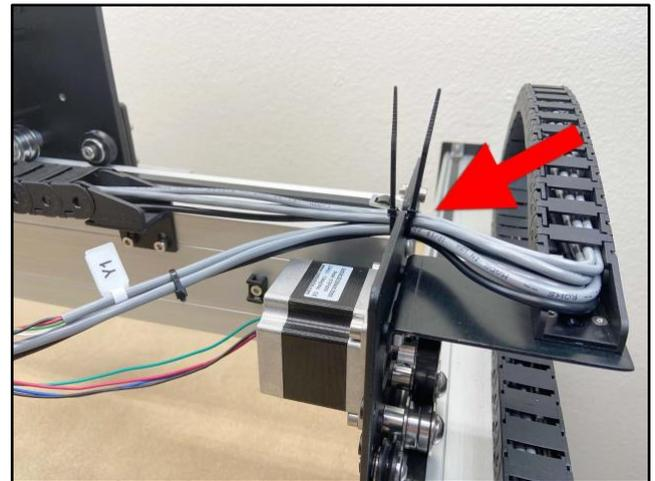
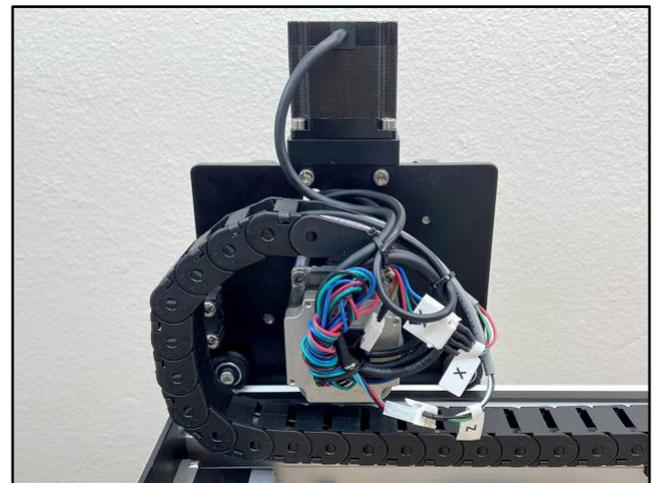

Figure 33
Figure 34
1. Secure the cables crossing the Y1-carriage plate. See **Fig. 33**.
- b. Use two (2) cable ties, one on each side of the cutout, to secure the cables in place.
2. Secure the cables at the rear of the Z-Plus. See **Fig. 34**.
- b. Use two (2) cable ties to secure the cables to the self-adhesive cable tie mount already on the back of the X-motor.